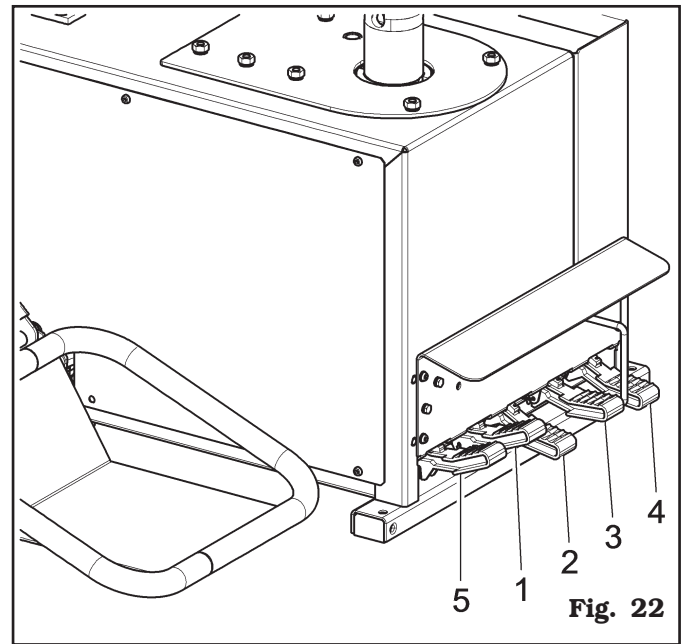
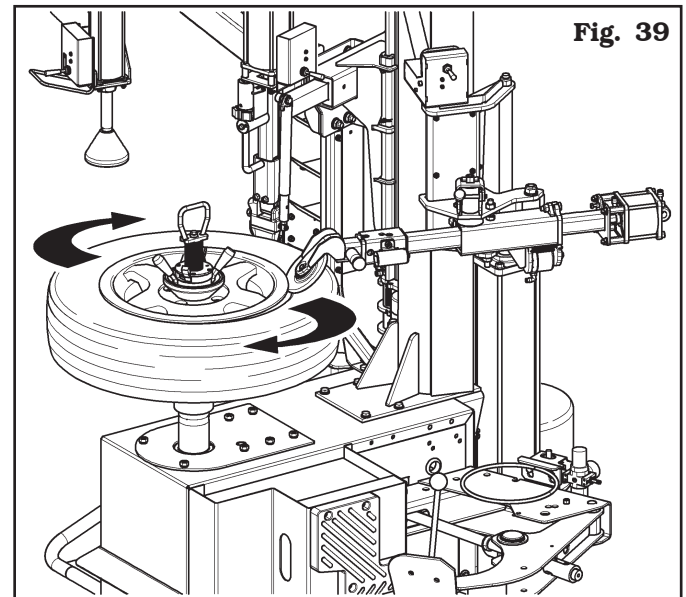

Fig. 22
Fig. 39
- The hold-to-run control pedal (**Fig. 22 ref. 1**) operates the handling of the wheel lifting device. Pulling the pedal downwards the lifting device starts its rise while, on the contrary, pulling the pedal upwards the lifting device starts descending. By releasing the pedal at any time, the lifting device stops.
- The pedal (**Fig. 22 ref. 2**) operates the vertical movement of the tool arm (disengagement). Pulling the pedal downwards the tool arm to work position starts its descent. Press it again to obtain the tool arm rise in disengagement position.
- The pedal (**Fig. 22 ref. 3**) has two hold-to-run control operative positions. When it is pushed downwards it controls chuck motor clockwise rotary movement. When the pedal is lifted upwards it operates the opposite movement.
- The pedal (**Fig. 22 ref. 4**) has a hold-to-run control operative position. When pressed down, it operates the bead breaker arm closing. Releasing the pedal, the arm returns to rest position.
- The inflation pedal (**Fig. 22 ref. 5**) has a different function according to the version present on the equipment.
2. press the pedal (**Fig. 22 ref. 4**) and activate the bead breaker tool to remove the bead. If the bead does not detach the first time, repeat the operation, on different points of the wheel, until it has come away completely;
1. After placing the wheel on the lifting plate (see **Fig. 25**), press the lifting device drive pedal (**Fig. 22 ref. 1**) downwards and bring the wheel to a level where it can be shifted to the chuck by hand (see **Fig. 26**);
3. lift the pedal (**Fig. 22 ref. 1**) upwards in order to lower the lifting plate;
5. Lift the lifting plate by pressing again the pedal downwards (**Fig. 22 ref. 1**);
3. activate the clockwise rotation by pressing the pedal (**Fig. 22 ref. 3**). Keep on rotating the wheel until the operation is completed (see **Fig. 39**);